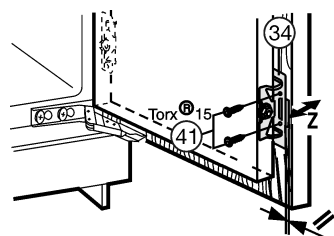

Fig. 28
- ▶ Fasten the appliance door to the unit door with screws Fig. 28 (41) through the mounting brackets Fig. 28 (34).